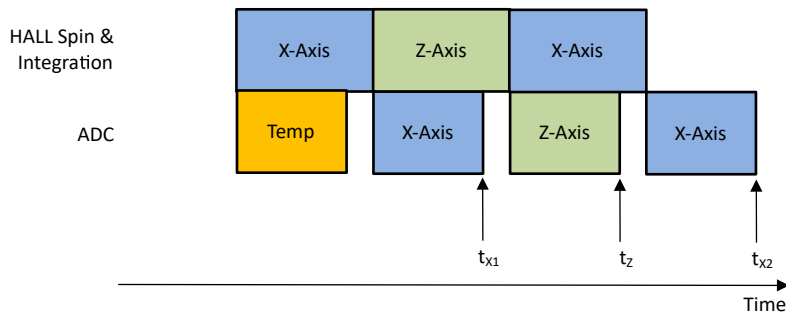

Figure 7-3. XZX Magnetic Field Conversion
In absolute angle measurement, application sensor data from multiple axes are required to calculate an accurate angle. The magnetic field data collected at different times through the same signal chain introduces error in angle calculation. The TMAG3001 offers pseudo-simultaneous sampling data collection modes to eliminate this error. Figure 7-3 shows an example where MAG_CH_EN is set at Bh to collect XZX data. Equation 12 shows that the time stamps for the X and Z sensor data are the same.
- t_{x1} , t_z , t_{x2} are time stamps for X, Z, X sensor data completion as defined in Figure 7-3.